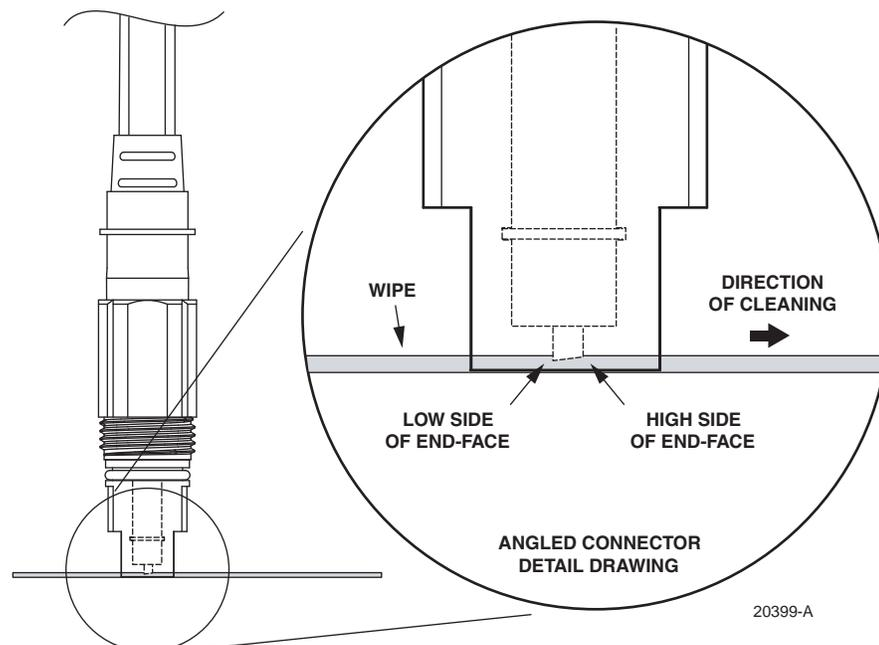

Figure 18. Angled Connector End-Face Detail
2. Examine the end of the drop cable connector and determine which is the high side which is the low side of the connector end-face as shown in Figure 18.